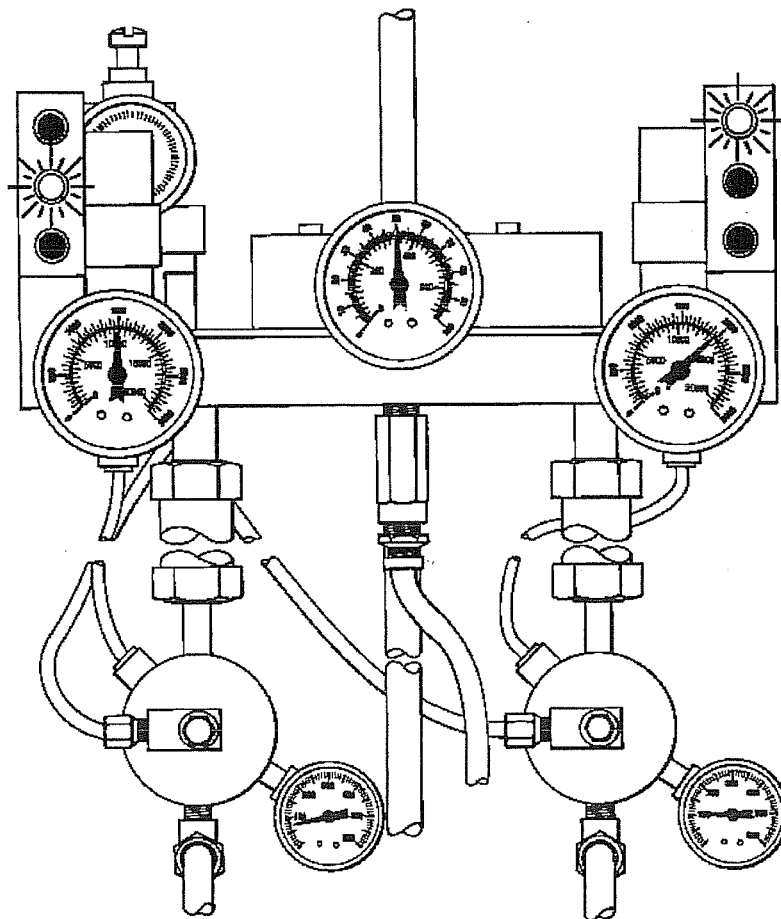

Figure 4-16
5. Close the bleed valve and *SLOWLY* reopen the banks shutoff valve closed previously. The following activities should take place (Figure 4-16):